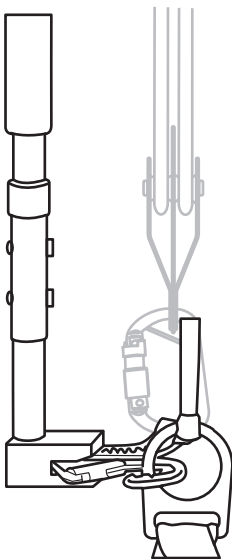
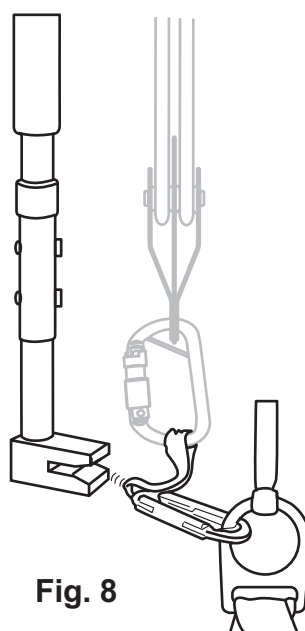

Fig. 7
Fig. 8
8. Once positioned, gently move the pole to apply pressure along the inner surface of the remote hook against the dorsal d-ring (Fig. 7). With increased pressure, the remote hook gate will disengage from the open position. Ensure the gate of the remote hook is closed through a visual confirmation (Fig. 8).